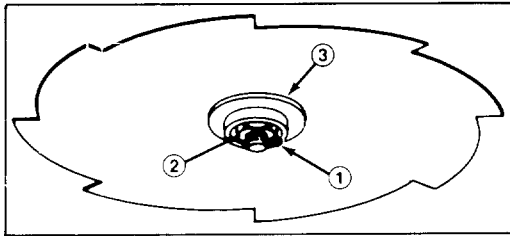

Figure 3
## INSTALLING OPTIONAL CUTTER BLADE (Fig. 3 & 4);
5. Insert cotter pin through hole in shaft and wrap ends around shaft (Fig. 3).
To prevent blade from loosening and possible personal injury, insert a new cotter pin through hole in shaft and wrap ends around shaft (Fig. 3).